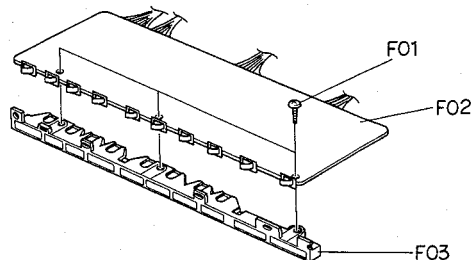

Fig. 3.9
Refer to Fig. 3.9. Remove Front Panel Ass'y and Logic L Ass'y referring to items 3.1 – 3.3 and 3.7.